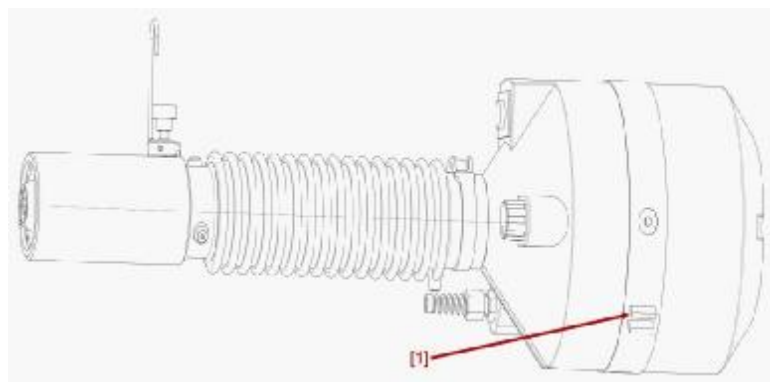

Figure: 8
5. Position the tension band as shown in figure: 8. Make sure that the screwing of the tension band [1] is pointed to the side of the potentiometer.